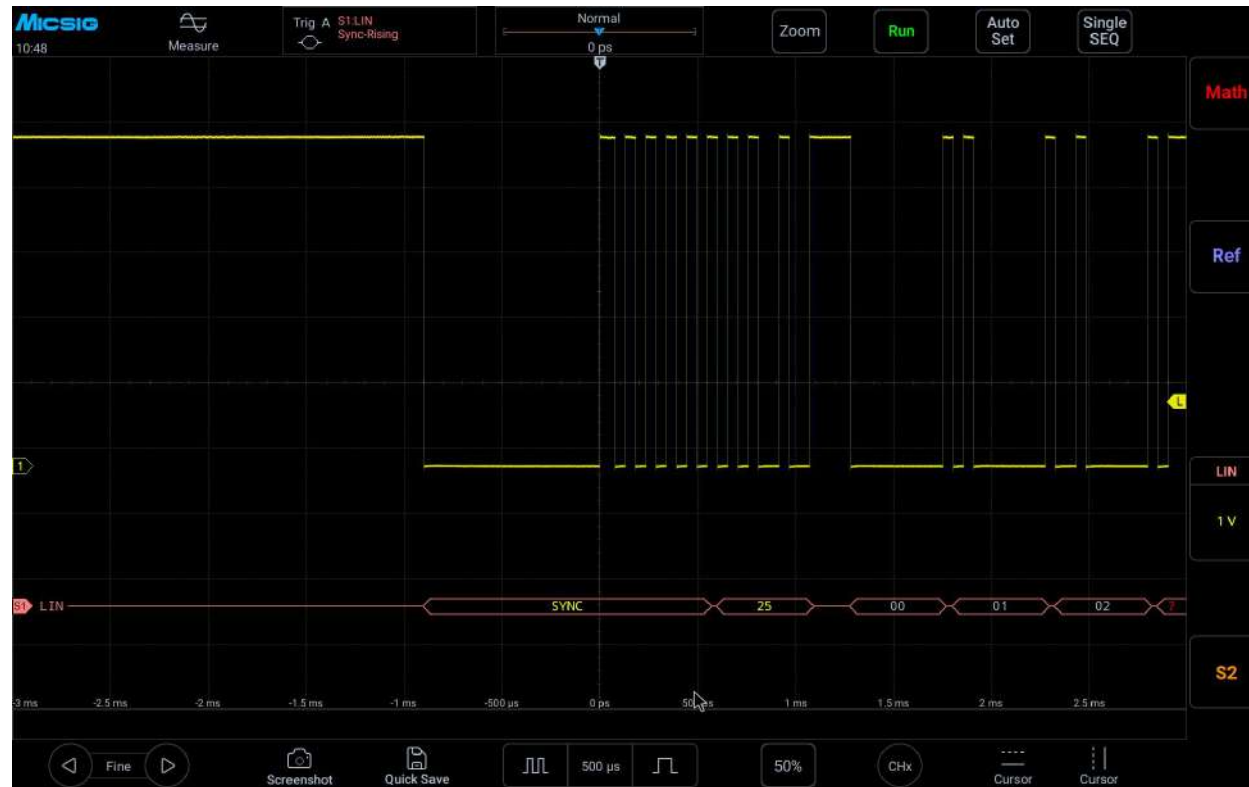

Figure 11-12 LIN Graphic Interface
- (1) Tap S1 to open the decode channel, and click again to open the bus configuration menu;
- (2) Select the bus type as “LIN”, click “Ch1”, “Idle High”, “19.20kb/s”, and then close the menu;
- (3) Open the trigger mode configuration menu and click “Synchronous Rising Edge”;
- (4) Click configuration information to open the decode channel threshold level adjustment box, and drag the adjustment box upward and downward to adjust the threshold level; adjust the threshold level according to the signal amplitude level to make the signal stably triggered. The LIN trigger graphic interface is shown in Figure 11-12: